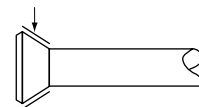

Fig. 15
• When connecting the flare nut, apply ester oil or ether oil to the flare section (both inside and outside), and spin 3-4 times before screwing in. **(Refer to Fig. 15)**